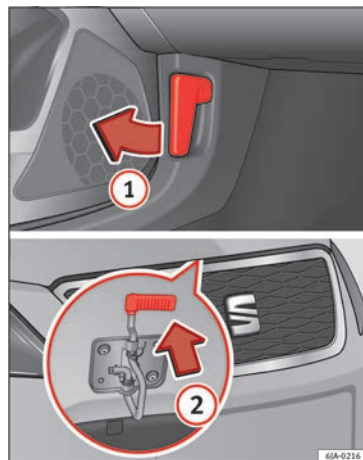

Fig. 204 Unlocking the bonnet.
- Pull the lever **1** » **Fig. 204** under the dash panel in the direction indicated by the arrow.
- Pull the release catch in the direction of the arrow **2** » **Fig. 204** and the bonnet will be released.